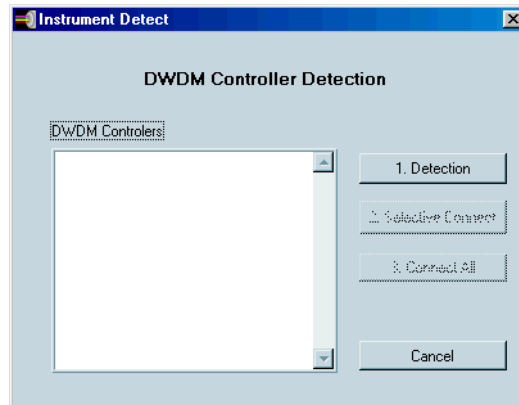

Figure 2-8. Instrument Detect Window
1. From the menu bar, select **Instrument** → **Detect...** to display the Instrument Detect window shown in Figure 2-8.: